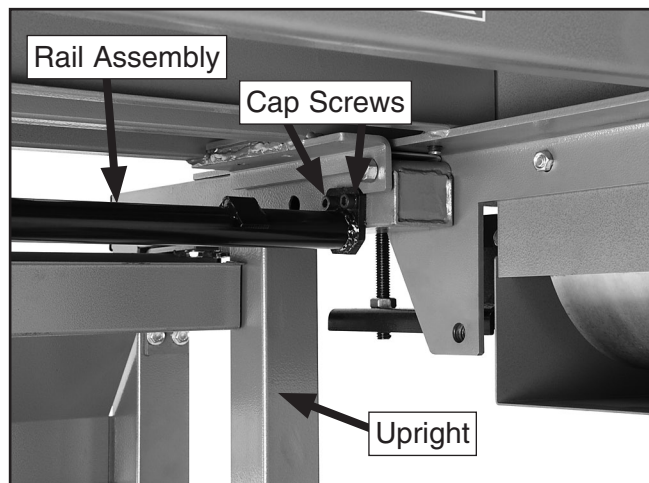

Figure 27. Platen press rail assembly.
17. Attach the platen press rail assembly to the left and right uprights with the (4) $\frac{1}{4}$ -20 x $\frac{1}{2}$ " cap screws, as shown in **Figure 27**.